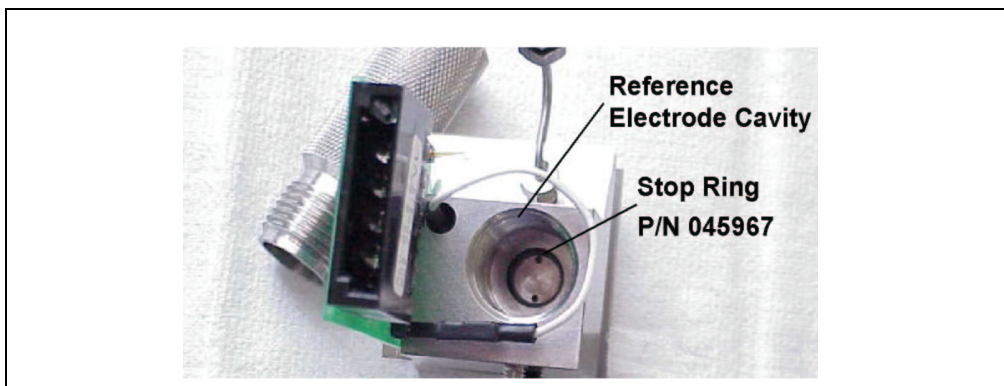

Figure B-7. Reference Electrode Cavity with Stop Ring
2. Verify that the stop ring is at the bottom of the reference electrode cavity (see Figure B-7). The stop ring prevents the reference electrode from bottoming out and thereby blocking the flow path inside the cell.
6. Before installing the electrode, observe the inside of the reference electrode cavity. When installed correctly, the electrode fits into the narrower diameter area at the bottom of the cavity and sits on top of the stop ring (see Figure B-7).